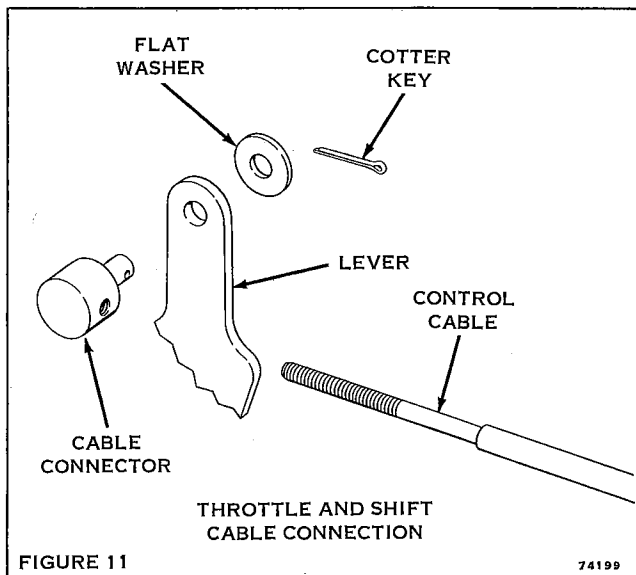

FIGURE 11
17. Throttle and shift control cable connections must be attached and lubricated with OMC Anti-Corrosion Lube. See Figure 11. See control and cable manufacturer's instructions for further assembly procedures.